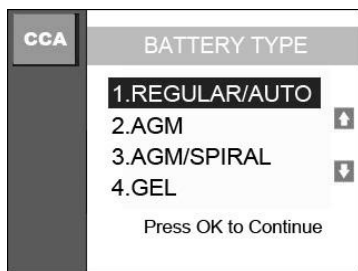

Figure 9.3
5. Press **OK** button to start test. The tool will display a list of battery types for selection. (Figure 9.3) Select the right type of battery and press **OK** button to continue.